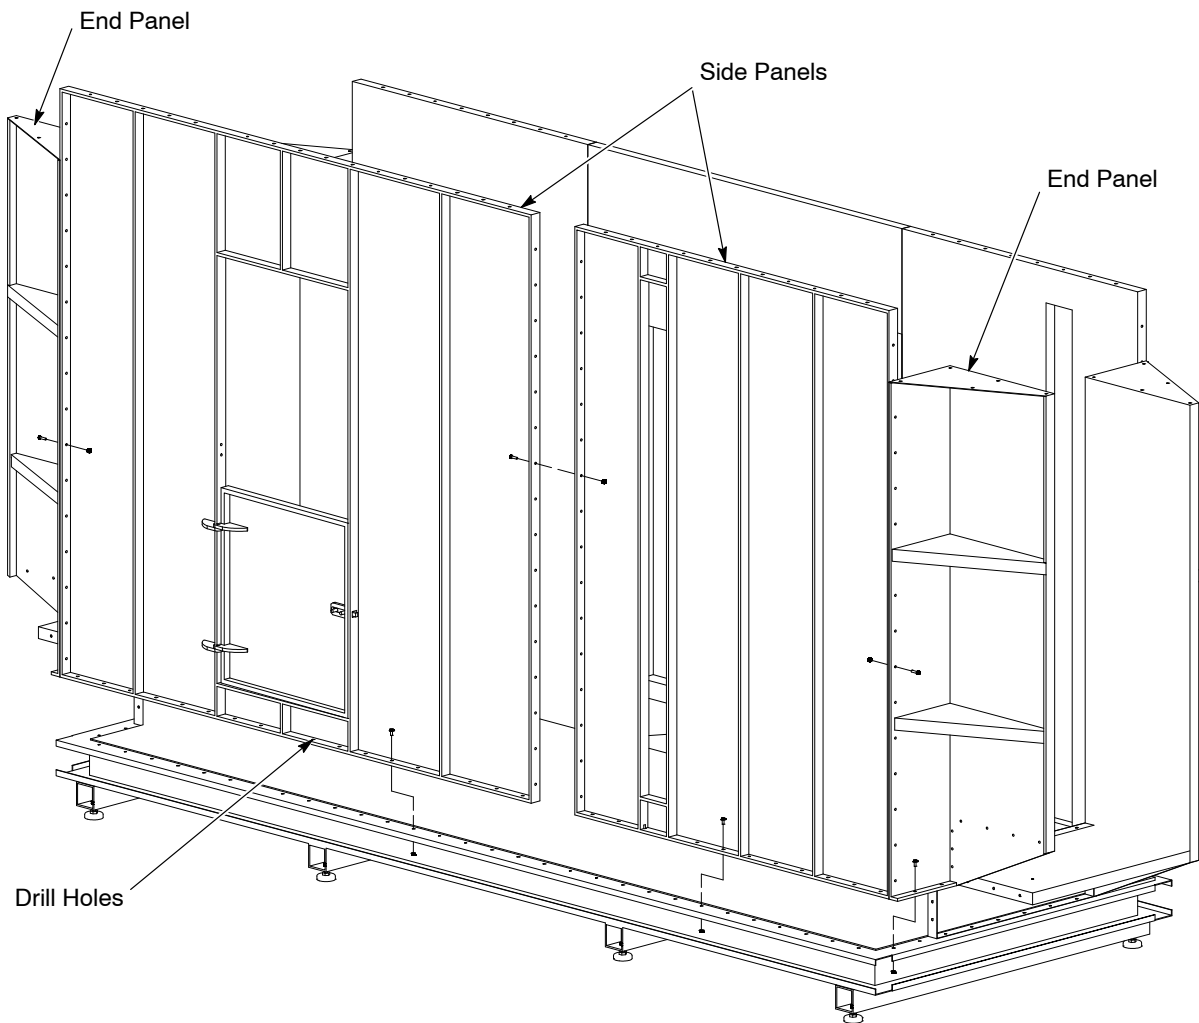

Figure 7 Assembling Opposite Side of Canopy
13. See Figure 7. Build corner assemblies for the other side of the booth as shown, using 5/16–18 hex head bolts and hex nuts.